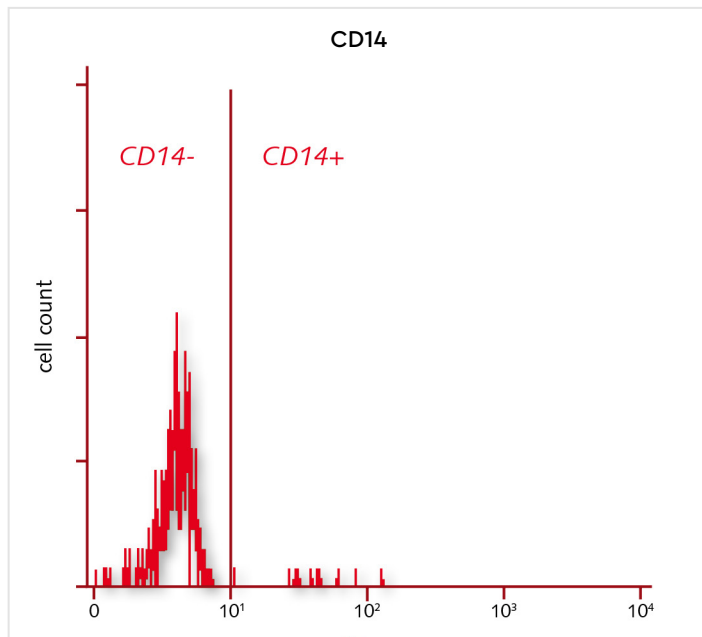

Fig. 4: Flow-cytometry analysis of day 8 mature moDCs generated in the PromoCell DC Generation Medium. More than 98% of the cells are negative for CD14.\*
**Note:** Mature moDCs generated in the PromoCell DC Generation Medium XF supplemented with the Cytokine Pack moDC exhibit a CD14+/CD45+/CD83+ phenotype (see Fig. 4 and 5).
**Note:** Mature moDCs generated in the PromoCell DC Generation Medium supplemented with the Cytokine Pack moDC exhibit a CD14+/CD45+/CD83+ phenotype (see Fig. 4 and 5).
**Note:** Mature moDCs generated in the PromoCell DC Generation Medium supplemented with the Cytokine Pack DC exhibit a CD14-/CD45+/CD83+ phenotype (see Fig. 4 and 5).